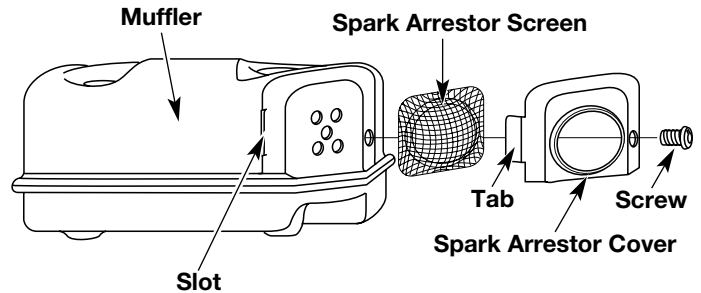

Fig. 45
2. With a flat blade screwdriver or Torx T20 bit, remove the screw attaching the spark arrestor cover to the muffler (Fig. 45).